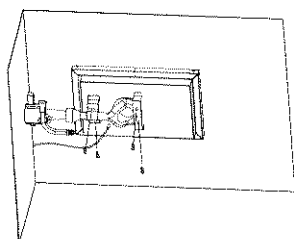

Figure 16
3. Replace "U" brackets with four screw(DO NOT TIGHTEN, MAKE SURE HOSE IS NOT BENT). (Fig.16). Then align & tighten knob seat & valve stem with 2 screws & washers